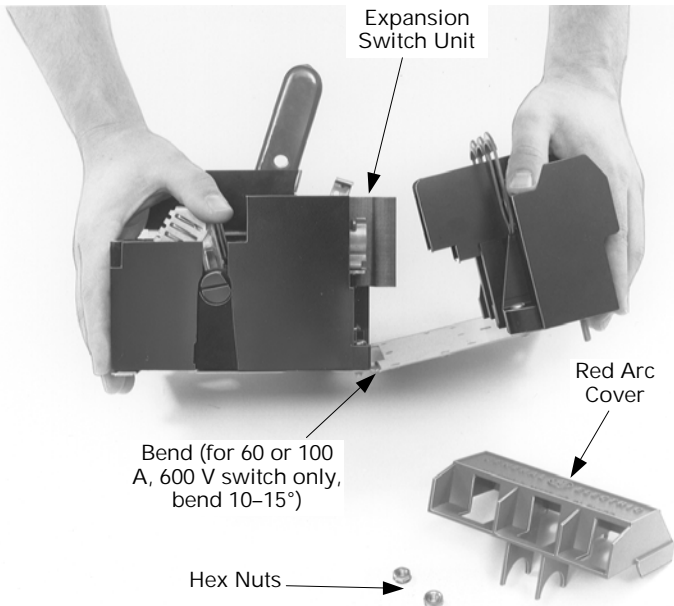

Figure 4. Preparing the switch for installation.
4. **Prepare the switch.** Remove and save the hex nuts from the studs and red arc cover on the expansion switch. When installing a 60- or 100-ampere, 600-volt expansion switch, you must bend the expansion switch unit 10 to 15 degrees, as shown in Figure 4.